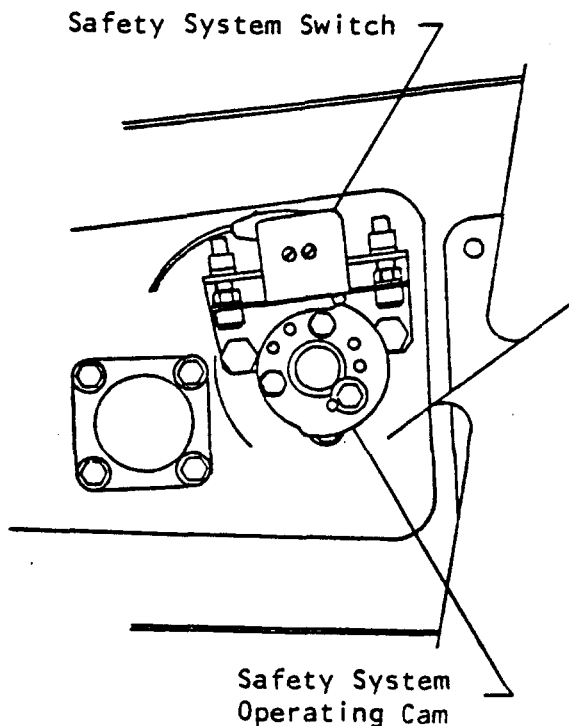

Figure 3 - Safety System - Pylon Components
- C. Safety (80% Reverse Power Cut-Off) System Operation. (Figure 3) The safety system functions to prevent unit movement towards stow at high engine power settings. The system cams, installed on the throttle shafts in the pylons, operate the throttle position limit switches as the throttles reach the 80-percent position to energize the bleed-off solenoid valve. The open valve bleeds air pressure from the regulator poppet valve, causing the poppet valve to close and shut off air to the actuator air motor.